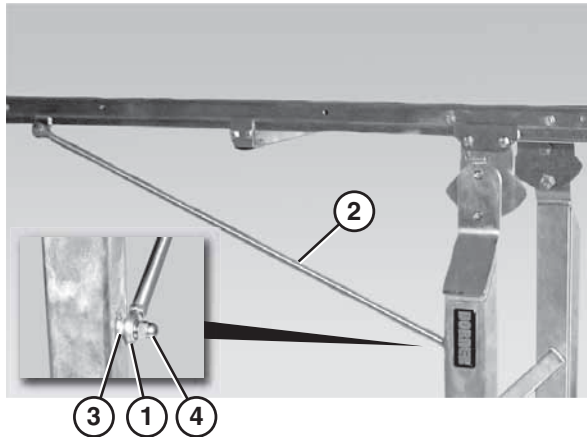

Figure 11
1. Install the rod end (Figure 11, item 1) of the diagonal brace (Figure 11, item 2) on the stud (Figure 11, item 3) and secure it with an M8 acorn nut (Figure 11, item 4).